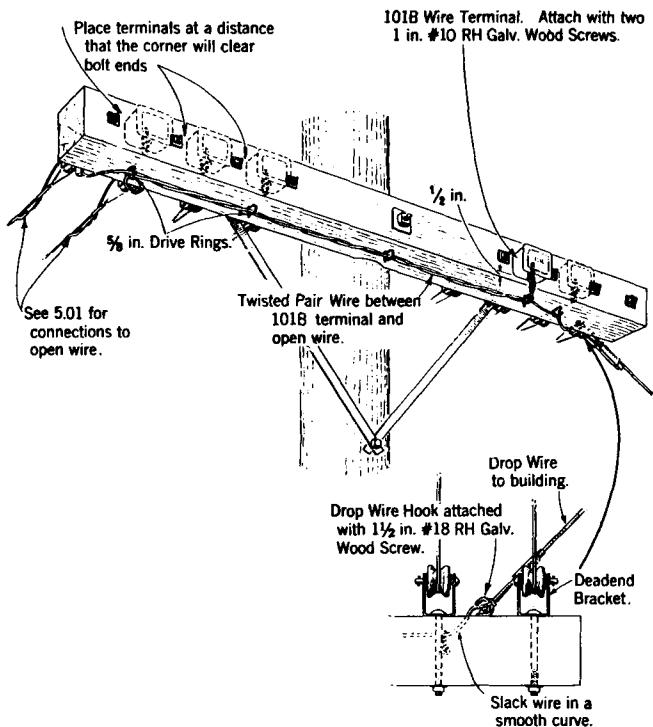

Fig. 4 – Wiring Arrangement on DE Crossarms Not Having Back Braces
4.11 Crossarms Equipped with Deadend Brackets (Fig. 4).
4.13 At double crossarms equipped with dead-end brackets, follow the general wiring method shown in Fig. 4, locating the 101B terminal on the outer side of the crossarm not equipped with deadend brackets. Locate the wire run on the underside of the same crossarm.